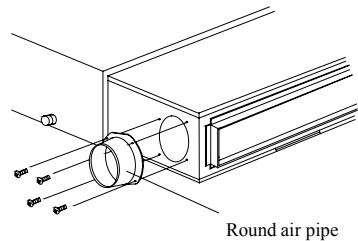

Fig.10
B. Install the round flange so that the fresh air pipe can be connected as fig.10.